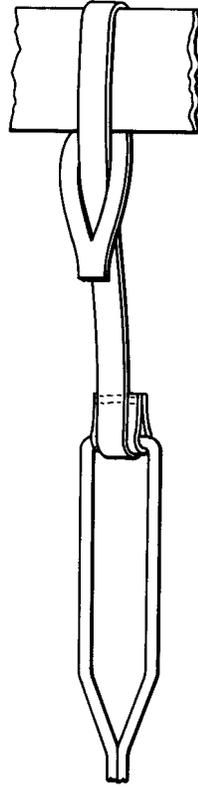

Fig. 3—B Handline Carrier
5.01 The B Handline Carrier is a device which may be attached to a body belt and used for securing one end of a rope while climbing and working aloft. It is made of a steel loop designed to release the rope under strain. In use the loop of the handline is placed into the steel loop of the handline carrier before going aloft. The loop is attached to a rawhide strap approximately 8 inches long and slit near the opposite end. The slit in the strap permits attachment of the carrier to the body belt as shown in Fig. 3.